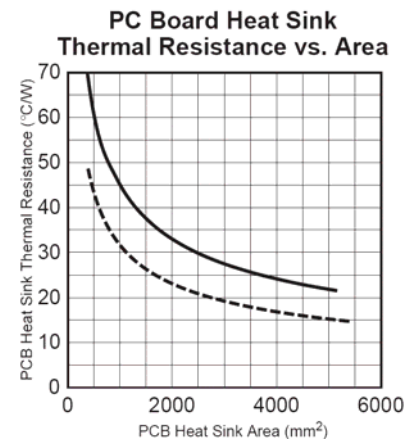

Figure 4. Excerpt from the LDO Book
- $R_{\theta_{CA}} = 53^\circ C/W$  Read from Graph in Figure 4